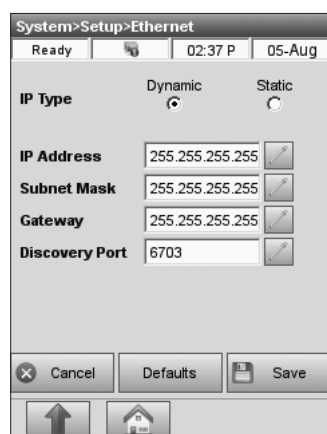

Fig. 3-94 Ethernet Settings
3. The **<System>Setup>Ethernet>** menu will appear (Fig. 3-94).